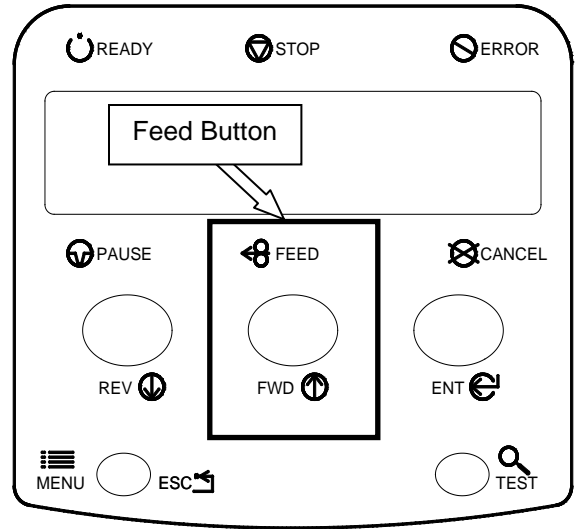

Figure 3-261. Printer Control Panel
- After the machine passes a visual check, press the “Feed” button on the printer control panel (Figure 3-261). This will pull the ribbon through the machine. If this does not clear the ribbon fault, move to step 3.